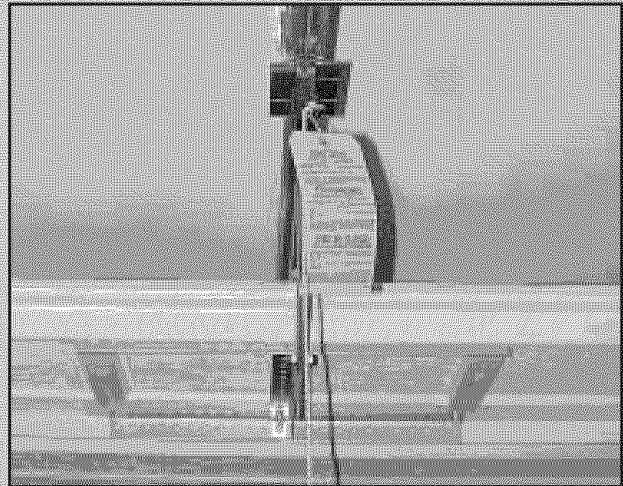

Fig. 2-9
- Line up power head and rail with center of door. **Fig. 2-9.**